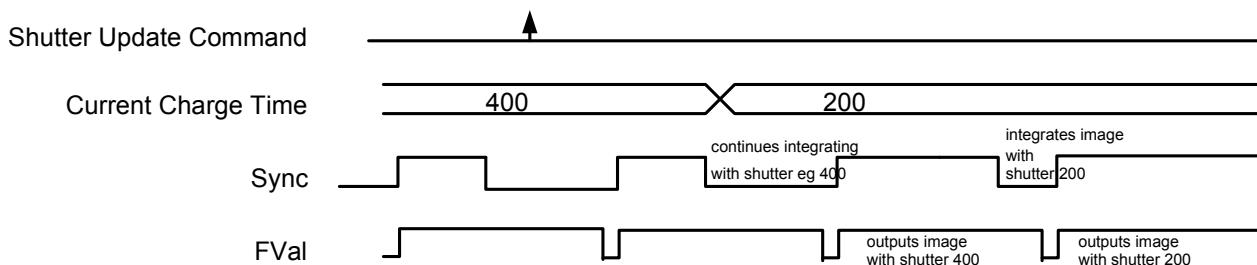

Figure 97: Former standard timing
- The delay from shutter update until the change takes place: up to 3 frames. Figure 97: Former standard timing on page 166 demonstrates this behavior. It shows that the camera receives a shutter update command while the sensor is currently integrating (Sync is low) with shutter setting 400. The camera continues to integrate and this image is output with the next FVal. The shutter change command becomes effective with the next falling edge of sync and finally the image taken with shutter 200 is output with a considerable delay.